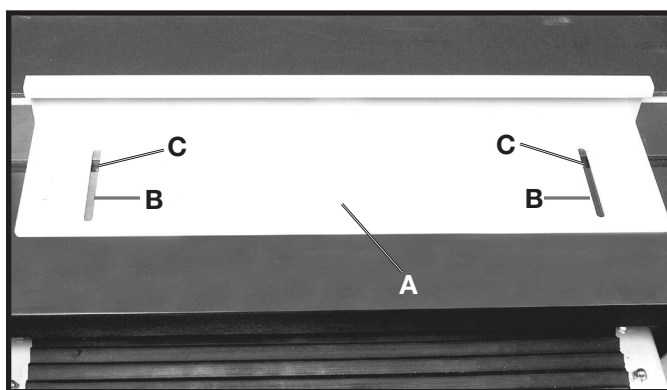

Fig. 29
1. Place the fence (A) on the table as shown in Fig. 29.
2. Align the slots (B) Fig. 29, in the fence with the tapped holes (C) in the table.